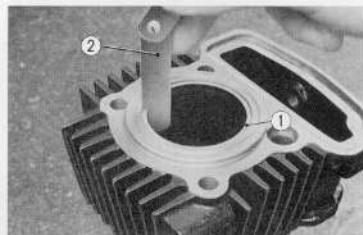

Fig. 3.55 Piston ring and gap
Measure the ring end gap by inserting the piston ring ① into the cylinder so that the ring is at right angle to the cylinder axis. (Fig. 3.55)